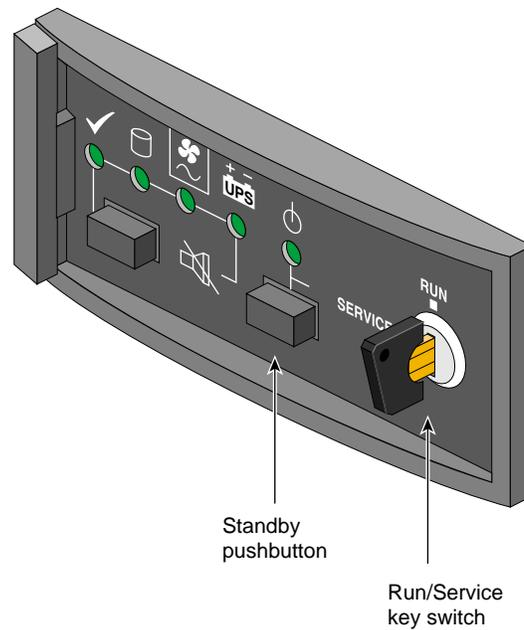

Figure 2-6 Setting D-brick's Run/Service Key Switch to RUN
3. If you plan to power on a D-brick or the entire server, which includes a D-brick, make sure that the D-brick's Run/Service key switch on the ESI/Ops panel is set to RUN, as shown in Figure 2-6.